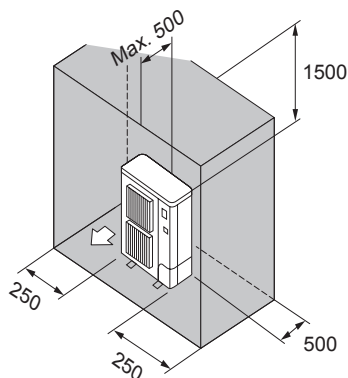

Fig. 4-11
- Obstacles at rear, sides, and above only (Fig. 4-11)